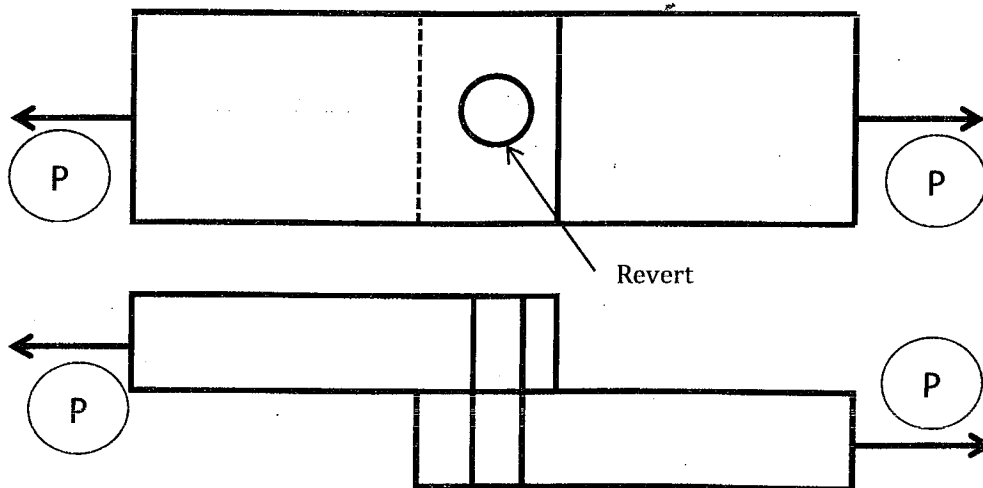

Figure 1
- b. In figure 1, it shows that 20mm diameter revert joining two plates that are 100mm wide. Applied load $P=200\text{kN}$. The allowable stress for bearing in plate material is 120MPa and allowable shear stress for revert material is 600MPa. Find the followings. (10 Marks)